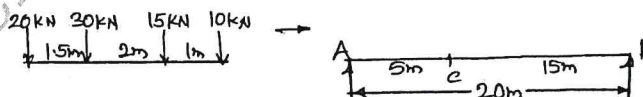

Fig.Q4
- 4 A simply supported beam of span 20m is subjected to a set of loads of magnitude of 20 kN, 30 kN, 15 kN and 10 kN spaced as shown with 10 kN leading. Determine the maximum BM at a section 5m from the left end and also the absolute maximum BM developed in the beam. [Refer Fig.Q4] (20 Marks)